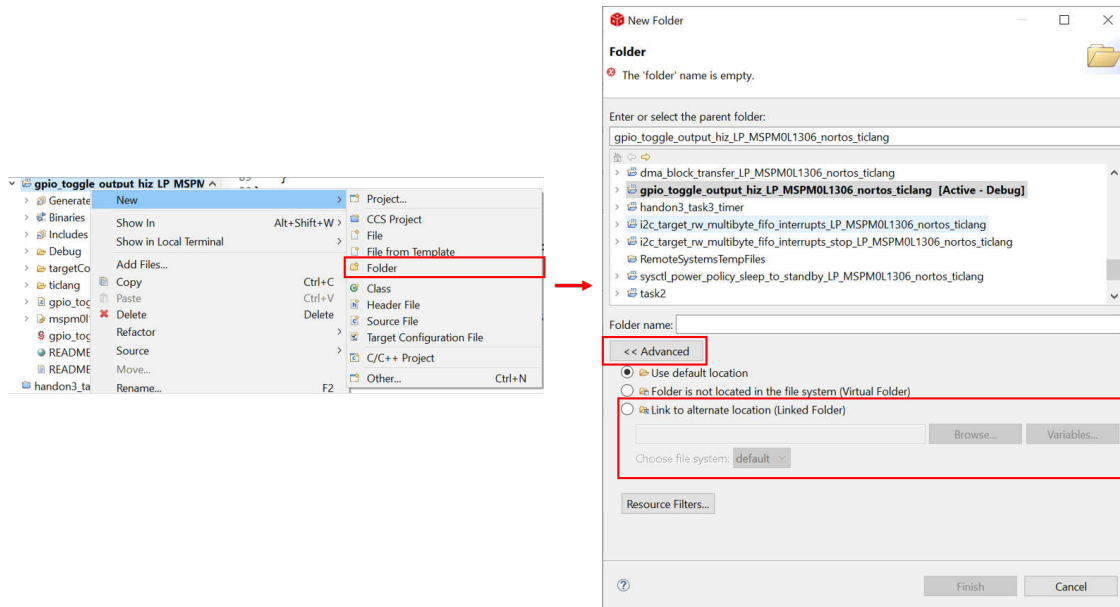

Figure 2-31. Add Relevant File
- If users want to add third-party libraries, then follow the steps below. First, add relevant file into the project, as shown in Figure 2-31.